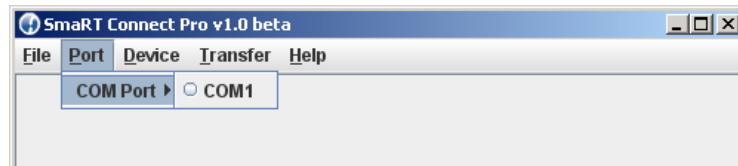
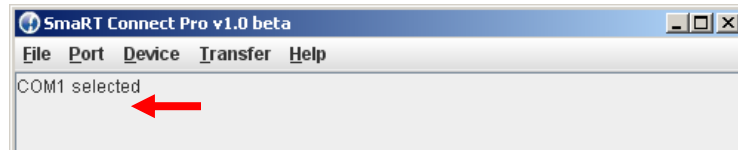
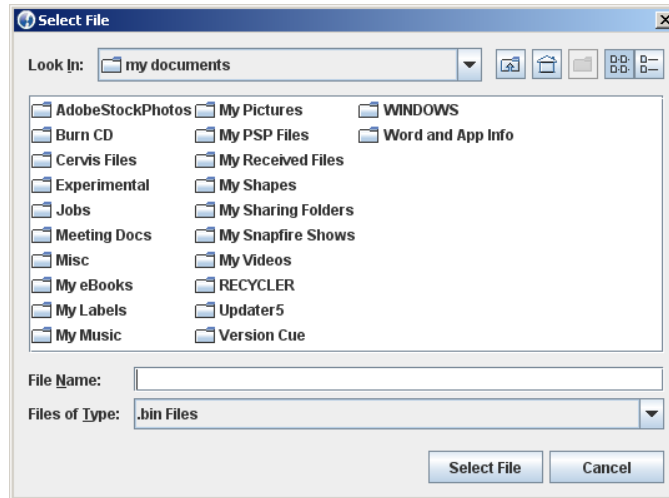

Figure 8
Figure 9
Figure 10
6. Click on the Port Menu. The display changes as shown in Figure 8. Notice in this case only one port option is presented. Click on the option that suits your needs. The screen displays your choice as shown in Figure 9.
1. Click the File **Menu** → **Select application file**. The Select File dialog box shown in Figure 10 displays. The configuration file will be located in some yet to be determined default file location, and that location will be displayed in the second line of the Smart Connect screen beneath the Port information (Figure 9, red arrow).